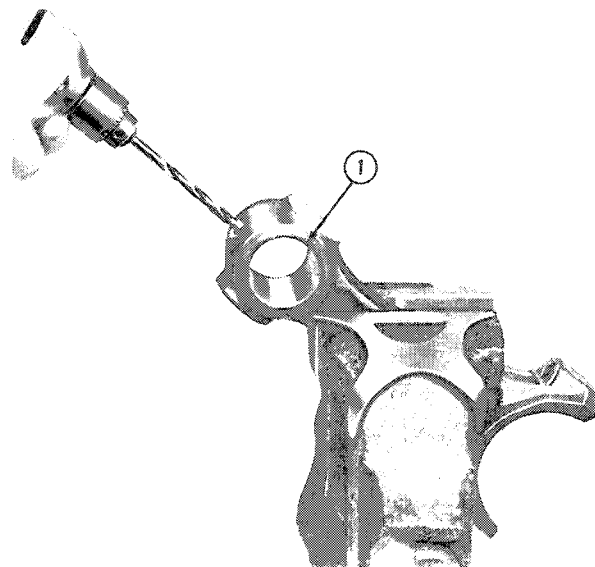

Figure 46
6. After installation of a new connecting rod bushing, use the hole in the top of the rod as a guide, drill a 0.25 in. (6.4 mm) diameter hole through one wall of the bushing, Figure 46.